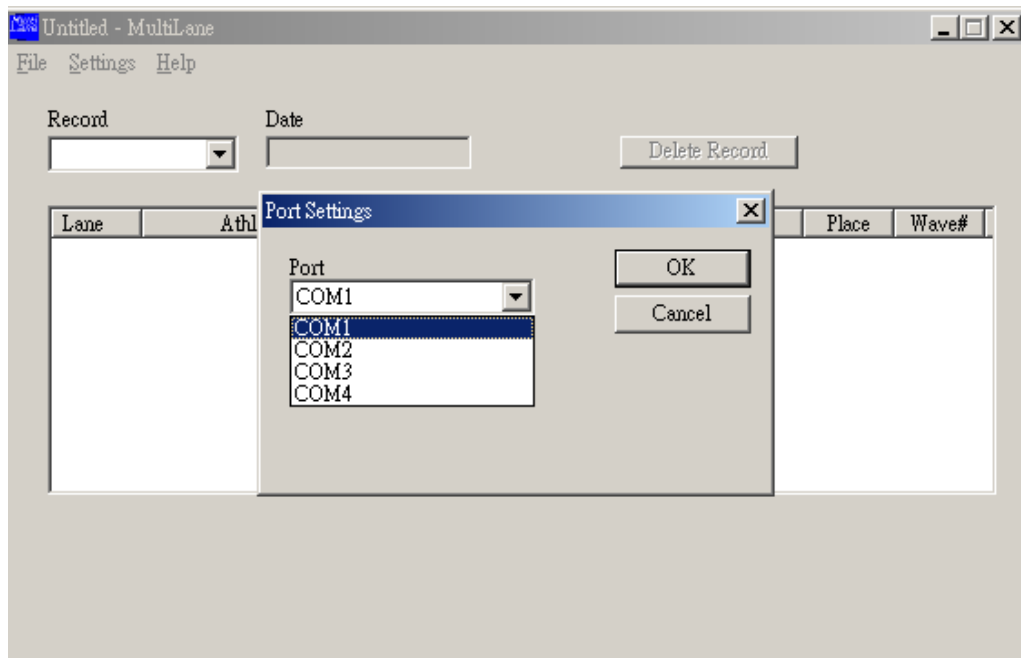

Fig 39
- 4) From the program pull down menu, click 'SETTING' and select 'PORT'. A list of COM port numbers will be displayed Fig.39. Select the port to which the 'com port upload socket' is inserted, and click 'OK' to accept and exit.